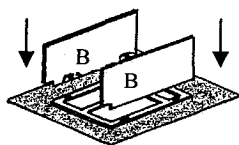
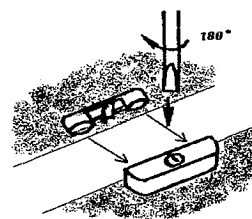

Figure 2
Figure 4
3. Install side panels (Figure 2): insert right and left side panels (B) into the grooves of face frame (A) and align the cam lock connectors (Figure 2). Lock the cam lock with a screwdriver by turning the screw 180 degree clockwise (Figure 4).